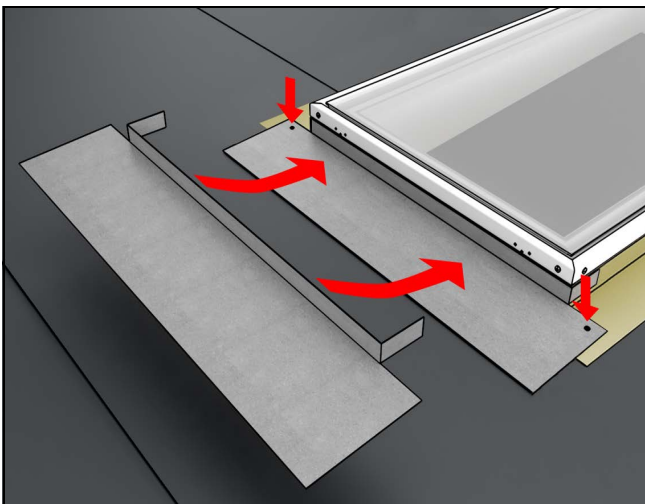

Figure 15
13. Place sill saddle centered on frame and bend over tabs. See Figure 15.